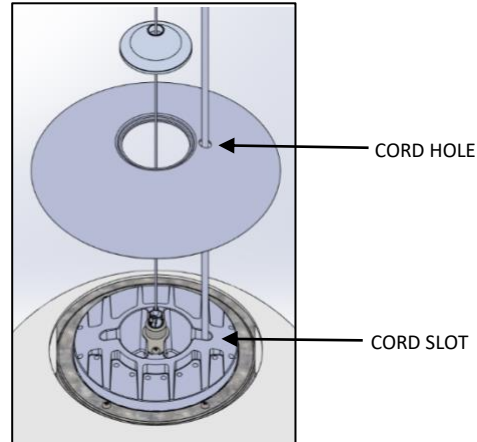

FIG. 36 – FITTER AND TOP
27. Make sure that ACRYLIC SHADE is properly seated onto the INSERT COLLAR and then set the TOP COVER and FITTER back onto the THREADED NIPPLE. Ensure the CORD HOLE in TOP COVER lines up with the CORD SLOT in the REFLECTOR SUBASSEMBLY and tighten down FITTER onto THREADED NIPPLE as shown below in FIG. 36.